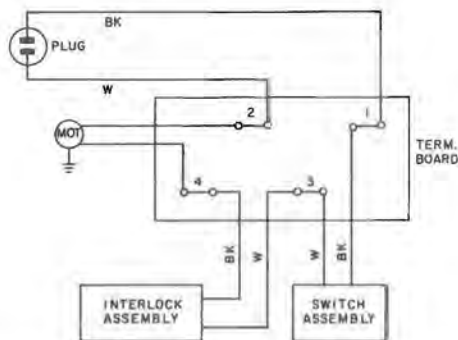

Fig. 30—KS-16797, List 9 (MD) Blower Assembly, Connections
- (3) Remove cover of terminal box assembly.
- (4) Check cord assembly as follows:
- (b) Connect ohmmeter to terminal 1 and 2 of terminal board (Fig. 30).
- (5) Operate BLOWER switch to ON position.
- (6) Check blower switch assembly as follows:
- (a) Connect ohmmeter to terminals 1 and 3 of terminal board (Fig. 30).
Inspect the blower switch and interlock switch assemblies. If their condition is good, connect their leads to terminal board per Fig. 30; if their condition is questionable, replace as directed in 4.30 or 4.31.
- (1) Tie a wire or string to the switch assembly leads at the end disconnected from the terminal board.
- (2) Remove and retain two No. 8-32 by 5/8 RH self-tapping screws which secure switch assembly to corner post.
- (3) Pull switch assembly until leads are removed from wire channel and wire or string is exposed.
- (4) Untie wire or string from leads of old switch and tie to leads of new switch.
- (5) Pull wire or string and feed switch leads through wire channel to terminal board. Untie wire or string.
- (6) Mount switch in position on post and secure it with the two screws retained in (2).
- (7) Connect leads to terminal board per Fig. 30.
- (1) Tie a wire or string to the switch assembly leads at the end disconnected from terminal board.
- (2) Remove and retain two No. 6-32 by 1-1/16 BHM screws, two No. 6 lockwashers, and two No. 6-32 hex nuts which secure switch assembly to track assembly.
- (3) Repeat 4.30 (4) and (5).
- (4) Mount switch in position on the upper surface of the track assembly with its operating bracket extending through the track.
- (5) Secure switch to track assembly using hardware retained in (2); lockwashers and hex nuts shall be on top side of track.
- (6) Connect leads to terminal board per Fig. 30.